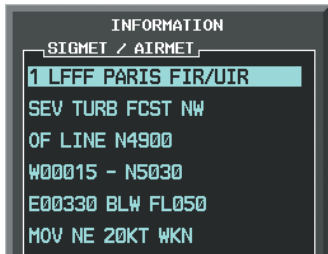

Figure 6-73 Sample SIGMET Text
- 4) Press the **ENT** key. Figure 6-73 shows sample SIGMET text.